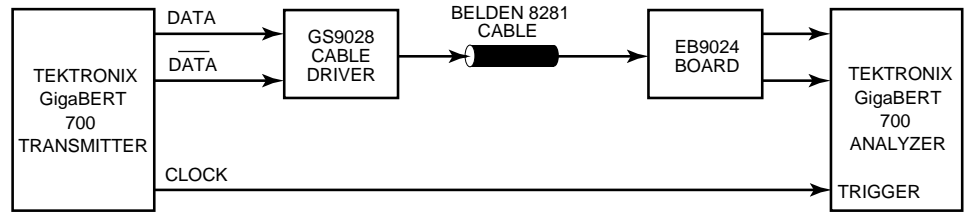

Figure 2-1: Test Setup for Figure 4-1.
4. Evaluated using test setup Figure 2-1.
(see Test Setup in Figure 2-1)